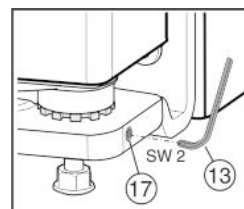

Fig. 17
- Extend the threaded pin Fig. 17 (17) a little (by one turn at most!).
- Tighten the threaded pin Fig. 17 (17) again to secure the bearing pin.